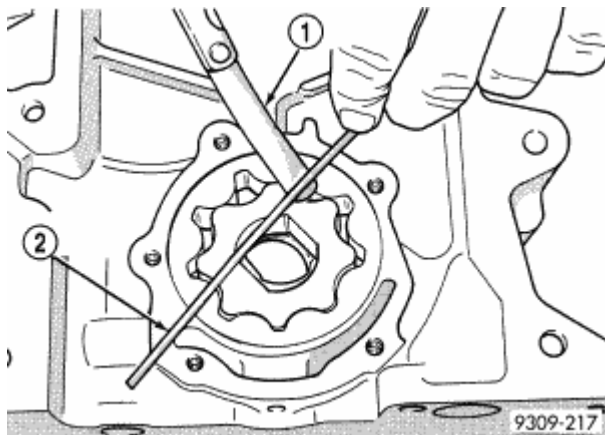

Fig. 192: Identifying Feeler Gauge & Straight Edge
7. Place a straightedge across the face of the chain case cover, between bolt holes. If a feeler gauge of 0.10 mm (0.004 in.) or more can be inserted between rotors and the straightedge, replace pump assembly. See **Fig. 192**. **ONLY** if rotors are in specs.